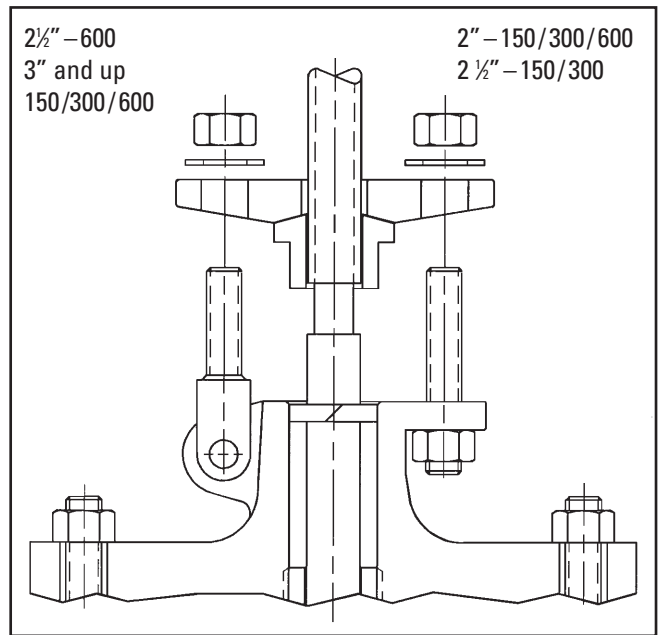

Figure 5.1G Insertion of first packing ring
2. Insert the first packing ring (braided graphite type, end ring) manually and place as deep into the packing chamber as possible followed by 1 graphite ribbon (intermediate packing ring). Refer to *Fig. 5.1G*.